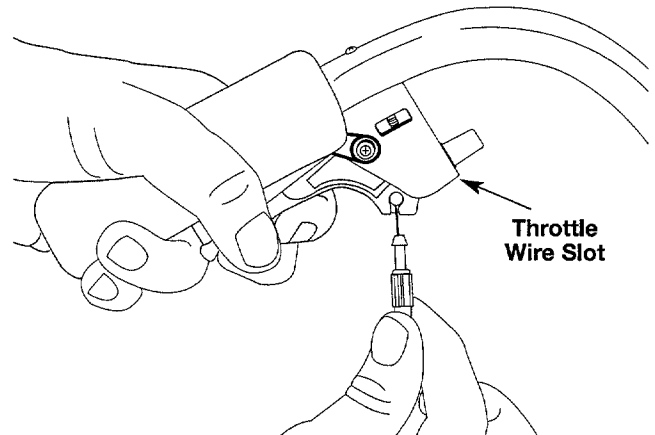

Figure 11
3. With the throttle trigger depressed, place the barrel end of the throttle wire inside the hole of the trigger. See Figure 11.